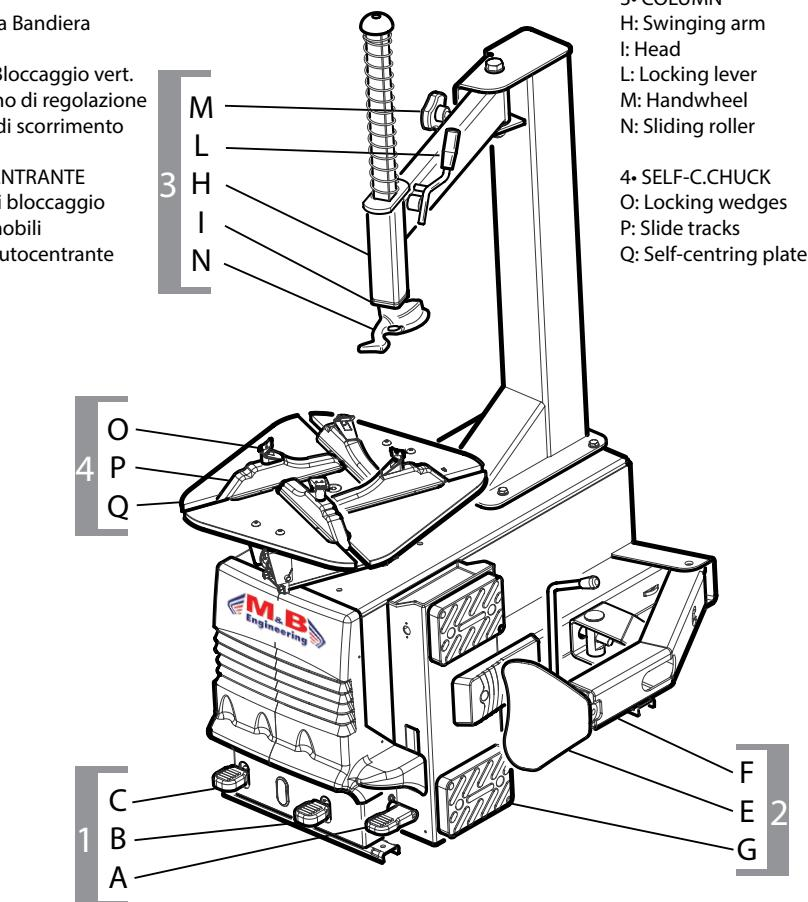

fig.1
**PEDALIERA (fig.1) (1)**
**STALLONATORE (fig.1) (2)**
**GRUPPO PALO (Fig.1) (3)**
**AUTOCENTRANTE (Fig.1) (4)**
**PEDAL CONTROLS (fig. 1)(1)**
**BEAD BREAKER (fig. 1) (2)**
**COLUMN UNIT (Fig.1) (3)**
**SELF-CENTERING CHUCK (Fig.1) (4)**
**PEDALIER (fig.1) (1)**
**DÉTALONNEUR (fig.1) (2)**
**GROUPE DE LA POTENCE (Fig.1) (3)**
**AUTOCENTREUR (Fig.1) (4)**
**FUßSCHALTUNG (Abb.1) (1)**
**ABDRÜCKER (Abb.1) (2)**
**TRAGSÄULENGRUPPE (Abb.1) (3)**
**SELBSTZENTRIERER (Abb.1) (4)**
**JUEGO DE PEDALES (fig.1) (1)**
**DESTALONADOR (fig.1) (2)**
**UNIDAD COLUMNA (Fig.1) (3)**
**AUTOCENTRADO (Fig.1) (4)**